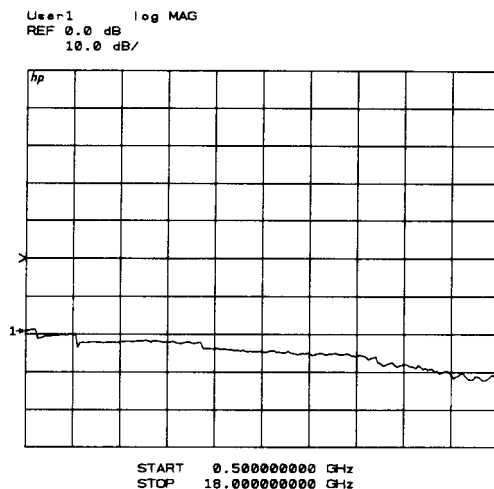

Figure 3-4. Typical Operator's Check CRT Power Level Trace
The b, and b2 traces should resemble Figure 3-3. The a, and a2 traces should resemble Figure 3-4.
5. Press PARAMETER [MENU] [USER 4 b1] [REDEFINE PARAMETER] [DRIVE] [PORT 2] [PHASELOCK] [a2] [REDEFINE DONE] to observe the b1 thru power level trace. The trace should resemble Figure 3-4.
6. Leave the thru connection of step 4 connected. Press PARAMETER [MENU] [USER 2 b2] [REDEFINE PARAMETER] [DRIVE] [PORT 1] [PHASELOCK] [a1] [REDEFINE DONE] to observe the b2 power level trace. The trace should resemble Figure 3-4.
5. Press PARAMETER [MENU] [USER 2 b2] [REDEFINE PARAMETER] [DRIVE] [PORT 1] [PHASELOCK] [a1] [REDEFINE DONE] to observe the b2 power level trace. The trace should resemble Figure 3-4.